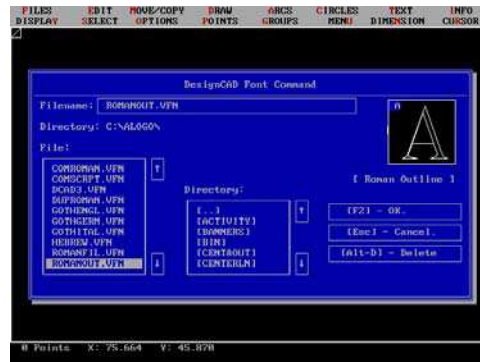

Figure 5
5. You are now ready to start your font. You can draw the letters freehand or you can choose a Design Cad font. Steps 6-8 are only necessary if you are using an existing Design Cad font. Keep in mind that you do not have to create an entire Design Cad font if you are only going to use the font once in a while in which case you would just create the entire text as a logo. To draw straight lines, set 2 points and press the “V” key. To draw curved lines set several points along a curve and press the “C” key. Refer to the “Hints and How To’s” section of the manual for a list of Design Cad commands. When you have completed the letter, go to step 9. To choose a Design Cad font, click on the word “TEXT” on the menu bar and then click on the word “Font”. Enter the character font name or press the “?” key for a list of fonts. See Figure 5. Use the arrow keys to scroll through the fonts. An uppercase “A” is the default letter displayed but you can view another letter by simply typing it.